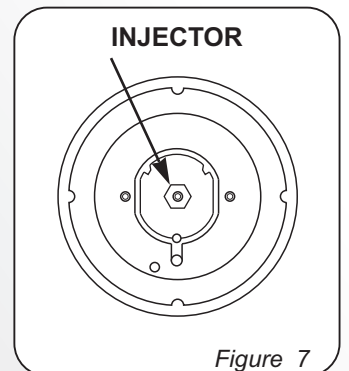

Figure 7
•insert on hexagonal spanner (7 mm) into the burner support (Figure 7)